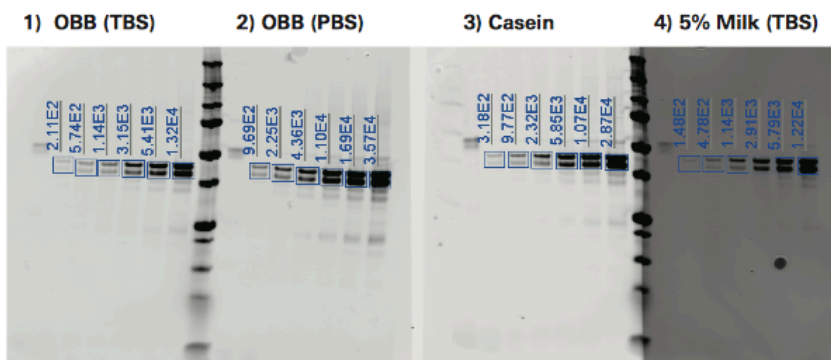

Figure 2A. Blots viewed as a single image, with uniform image display settings.
- View all blots together in a single image, with uniform image display settings, to compare membrane background levels and band intensity (Fig. 2A).
Figure 2A. All blots were viewed together in a single image, with identical image display settings. Signal intensity values are shown in each lane. Higher membrane background was observed on the blot blocked with 5% Milk in TBS.
Signal intensity values in Figures 2A and 2B were not affected by changes to the image display settings. *Signal intensity measurements are derived from the raw image data. Image display settings adjust the visual mapping of raw data to the pixels on the computer monitor, but do not affect the raw data.*
- Blocking with 5% Milk in TBS resulted in higher membrane background than other blocking conditions (Fig. 2A). For comparison of membrane background levels, blots were viewed